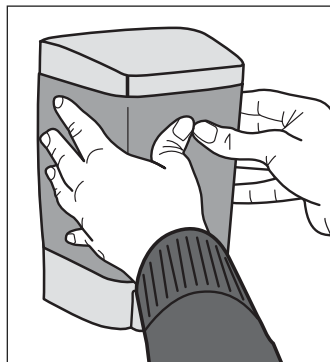

Figure 3
2. Peel off paper from back of tape (supplied). Press dispenser firmly to the wall and hold for at least 30 seconds to make sure tape has completely adhered to the wall. (See Figure 3)